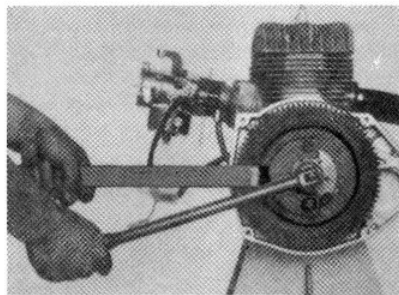
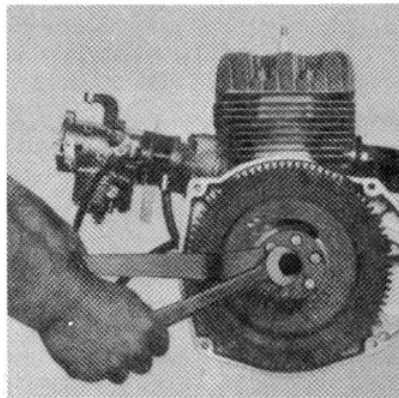

Fig. 7—Using the flywheel holding tool to remove crankshaft nut.
Fig. 8—A suitable puller is required for flywheel removal.
**DISASSEMBLY AND REASSEMBLY.** To disassemble the removed engine, first remove ignition coil cover and coils, then remove cylinder shrouds. Remove fan guard, recoil starter and starter pulley. Unbolt and remove fan housing, fan and associated parts as a unit. Remove crankshaft nut using flywheel holding tool and suitable wrench as shown in Fig. 7; then remove flywheel using puller as shown in Fig. 8.